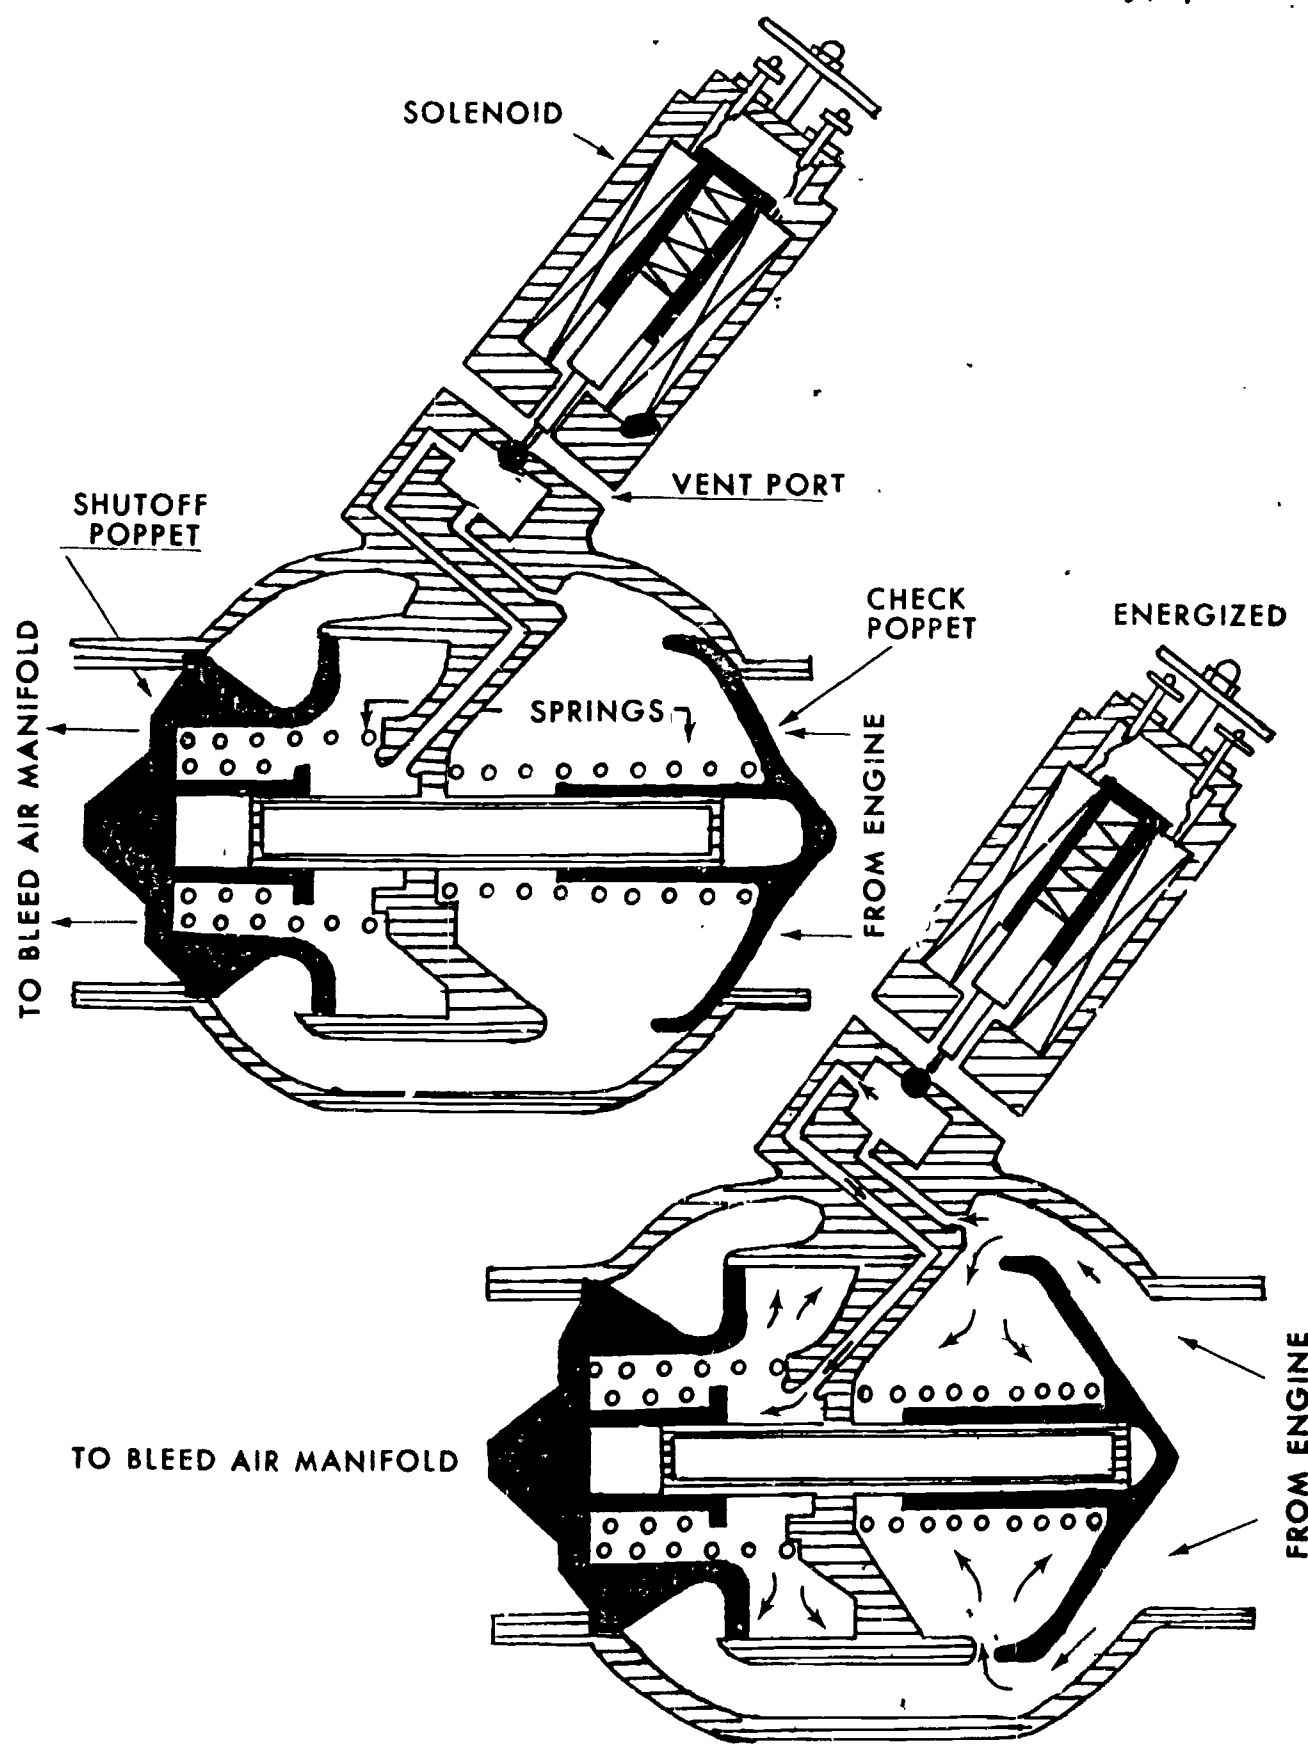

Figure 2.
Figure 2 shows two views of an engine bleed air check and shutoff valve. The top view shows the solenoid energized when the engine is not operating. Notice the springs that hold both the shutoff and the check poppets in the closed positions, when the engine is not operating.
In figures 2 and 3 we have seen how the engine bleed air check and shutoff valves operate. We will now learn how the engine bleed air check and shutoff valve solenoids are controlled. Each engine has a valve and a solenoid. Keep in mind that, when the solenoids are deenergized and the engines are operating, the valves are open. When the solenoids are energized and the engines are operating, the valves are closed. The engine bleed air check and shutoff valve solenoids are controlled by: (1) the air source switch, and (2) the engine start relays.